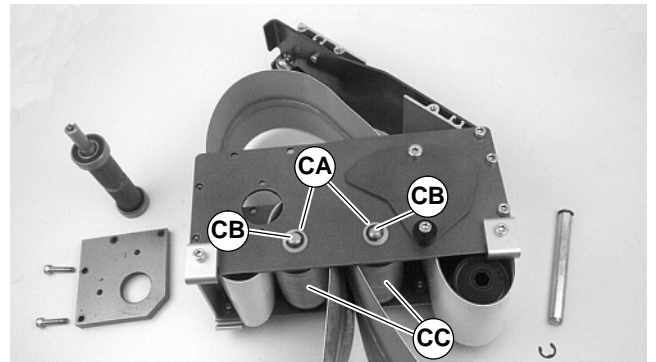

Figure 46
- For 44 mm, 70 mm or 95 mm wide conveyor, detach E-ring clips and remove washers (CA of Figure 46). Remove pulley shafts (CB) and pulleys (CC).